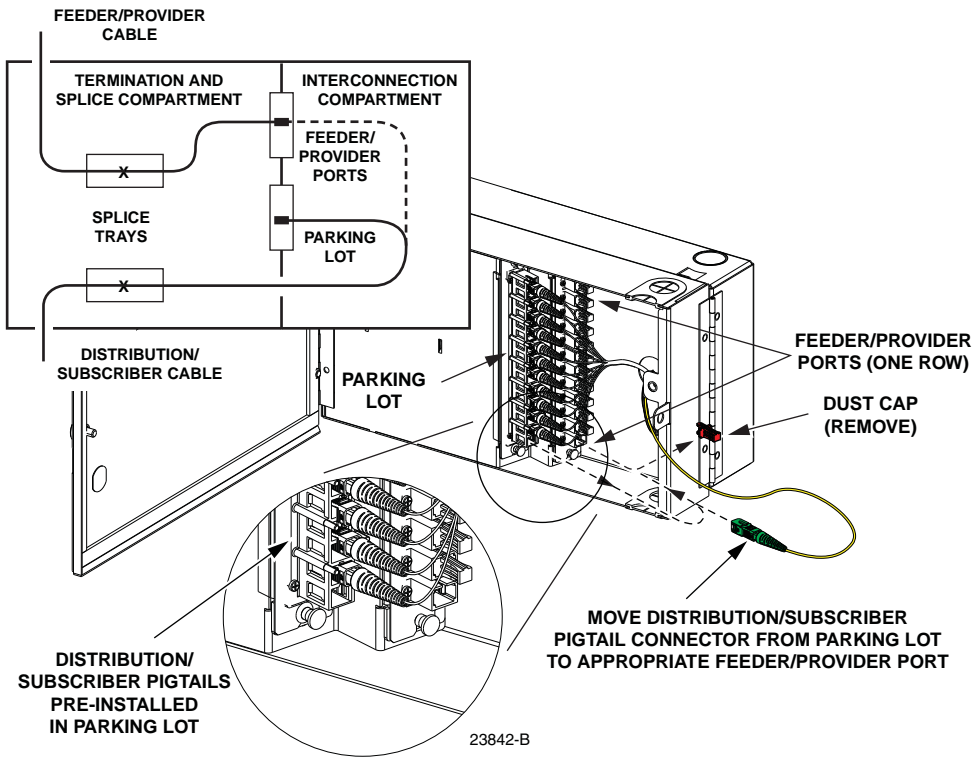

Figure 10. Interconnections - 12-Port IFDT with Pre-Installed Distribution/Subscriber Pigtails
**12-Port IFDT with pre-installed distribution/subscriber pigtails:** The distribution/subscriber pigtail connectors are temporarily parked in the parking lot. Service is initiated when a distribution/subscriber connector is moved from the parking lot to the appropriate feeder/provider port as shown in Figure 10